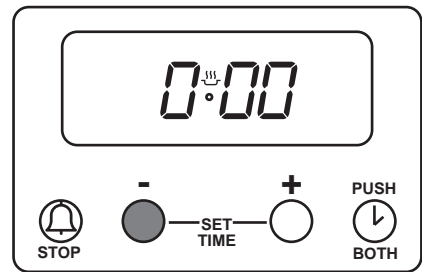

Fig. 6
To set, press button (1) and the display will read 0^h:00, see Fig. 6.